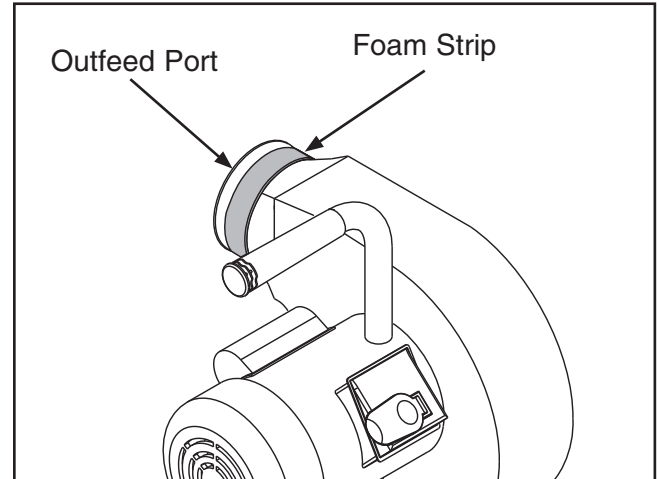

Figure 10. Location to install foam strip.
3. Wrap the foam strip around the outfeed port of the collector body, as shown in **Figure 10**. Cut to fit if necessary.